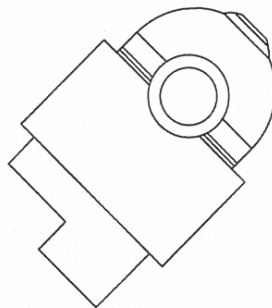

Fig.4 Incident Light
2. Insert the adapter tube with the camera already mounted on the vertical port, as shown in figure 4. If it does not insert easily, unscrew the knurled screw until the adapter tube fits perfectly.